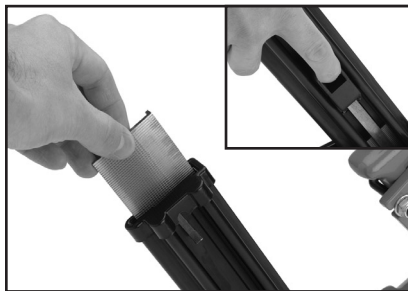

Figure 4. Loading nails into nailer.
2. Slide a strip of nails, pointed-end down, into the magazine as shown in **Figure 4**.
3. Push the button inside the pusher (inset photo in **Figure 4**), pull the pusher all the way back, then allow the pusher to slide forward against the nail strip.